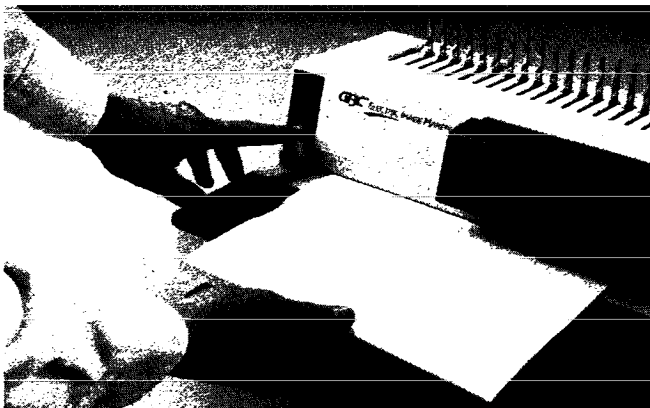

Figure 4.5
7. Test your settings by inserting the long edge of a blank sheet of 11" paper into the throat opening of the punch. Check to insure the test sheet is inserted evenly and is flush against the Paper Edge Guide. Depress the Black Punch Actuator Button located directly below the Yellow Power "ON" Indicator Light. The machine will complete a punch cycle and stop (see Figure 4.5).